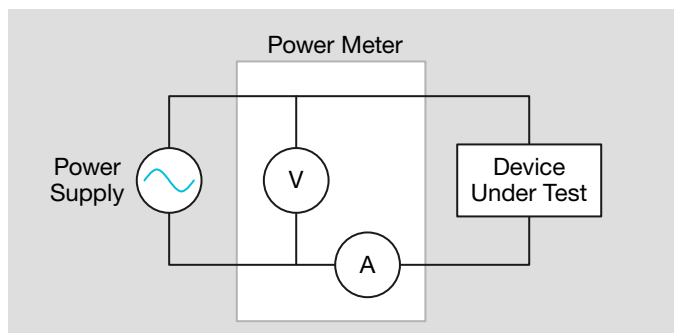

Figure 18: Correct wiring methods for low power measurements.
- While measuring standby power, the power analyzer's current shunt should be connected on the load side of the voltage low terminal as shown in **Figure 18**.